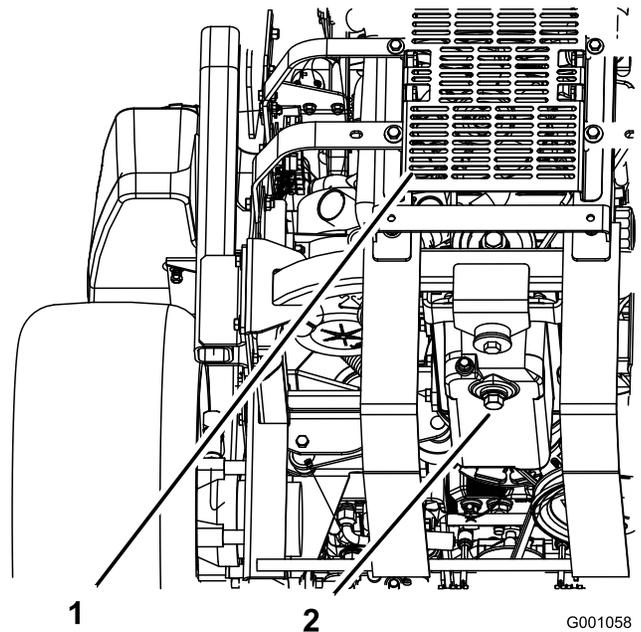

Figure 40
5. Place a pan below the oil drain. Remove the drain plug and let the oil drain completely (Figure 40).